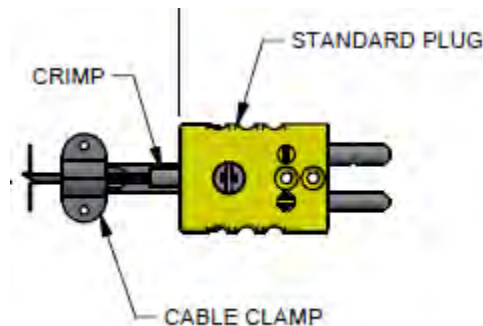

Figure 10: Thermocouple Connector
- a. Locate the yellow thermocouple connector (Figure 10) near the Control Cabinet and pull to unplug – TE10x.